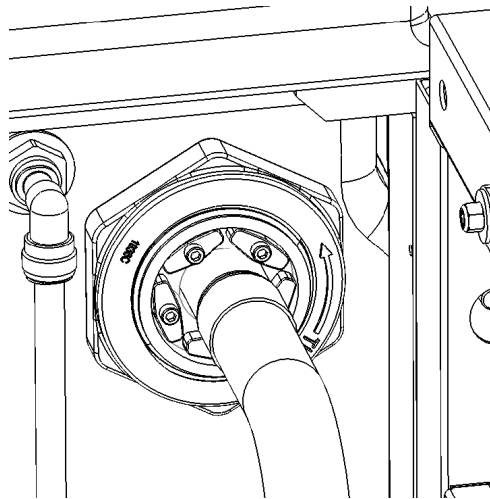

Figure 16 – Upper Link-Seal
1. Within the Refrigeration Management System (RMS) area, compress (or remove, if necessary) INSULATION blocking access to upper and lower COLLECTION HEADERS (see Figure 16 for an illustration of the LINK-SEAL surrounding the upper COLLECTION HEADER).